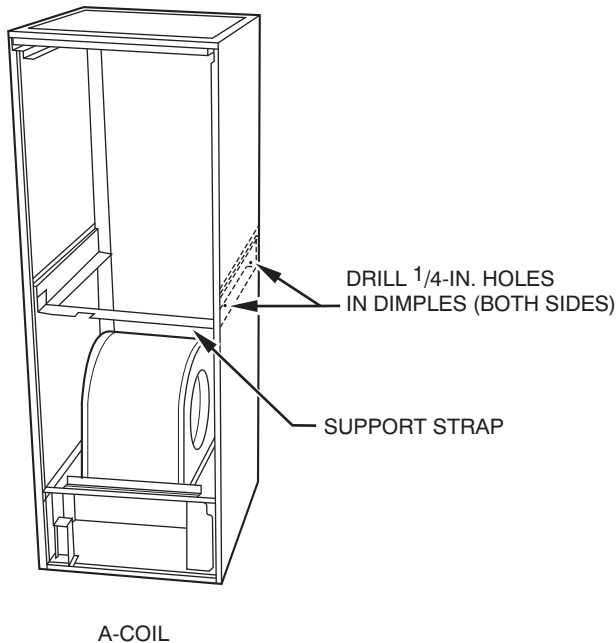

Fig. 1 - Downflow A-Coil Brackets and Support Strap Location
5. Drill four 1/4-in. holes (2 on each side) in fan coil casing at dimples provided. (See Fig. 1.)
6. Secure coil brackets (provided in kit) to casing sides. (See Fig. 1.)
- a. Position flange on each end of strap between coil bracket and casing insulation. (See Fig. 1.)
- b. Secure support strap ends to coil brackets. (See Fig. 1.)